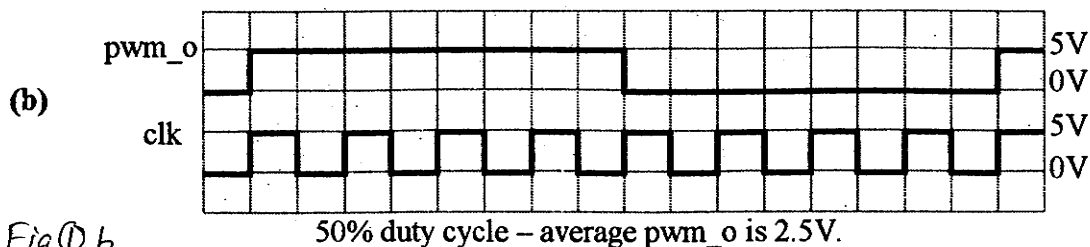

Fig 1(b)
* A duty cycle of 75% would result in average o/p of 3.75V as shown in fig 1(c).